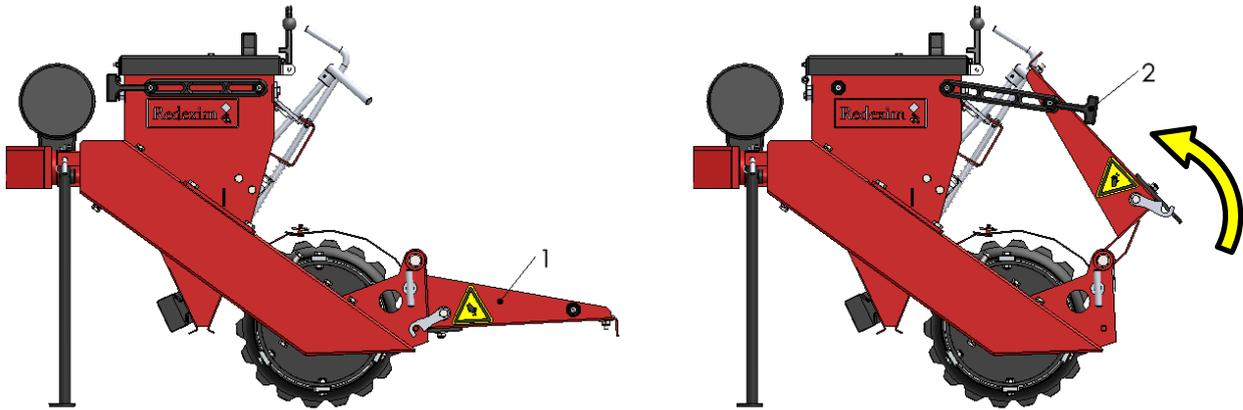

Figure 10
If you want to put the footboard (1) in the folded position for transport or storage, it must be secured by means of the tension strap (2), see Figure 10.